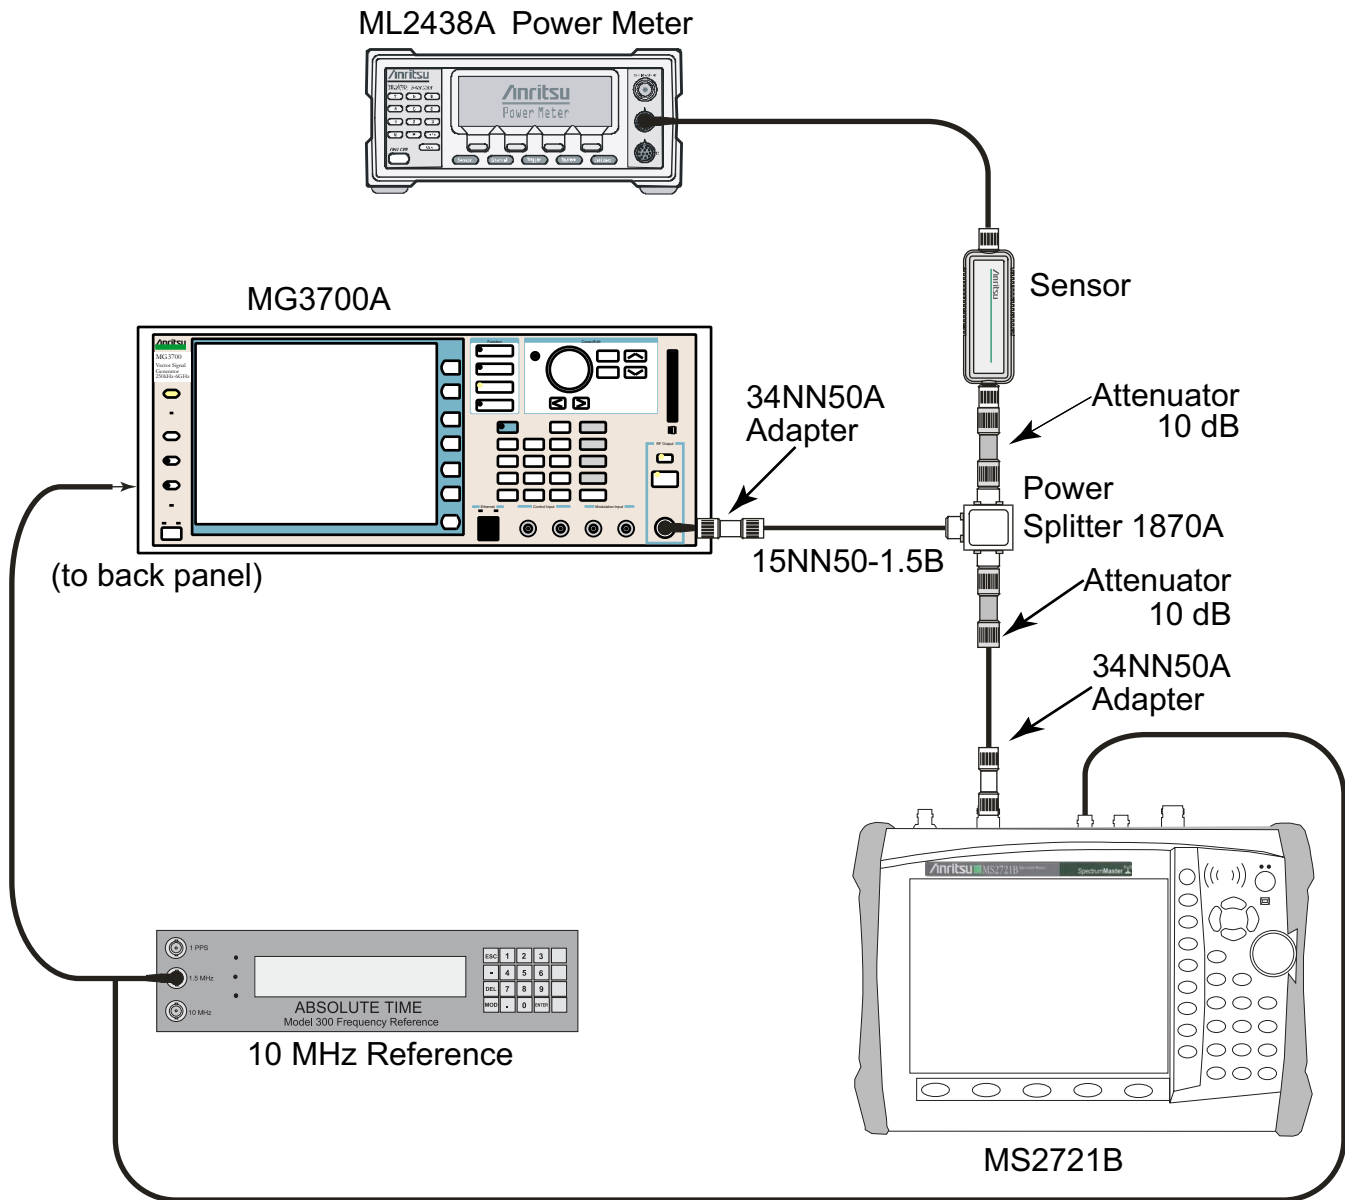

Figure 3-16. WCDMA Occupied Bandwidth Test Setup
3. Connect the MG3700A, splitter, attenuator, power meter, and sensor as shown in Figure 3-16.
4. Press the **On/Off** key to turn on the MS2721B and wait until the measurement display appears, then press the **Shift** key and press the **Mode** (9) key to activate the mode selection menu.
6. Press the **Shift** key, the **Preset** (1) key, and then the Preset soft key.
4. Press the **On/Off** key to turn on the MS2721B and wait until the measurement display appears. Press the **Shift** key and then press the **Mode** (9) key to activate the mode selection menu.
3. Connect the MG3700A, splitter, attenuator, power meter, and sensor according to Figure 3-16 on page 3-52.
4. Press the **On/Off** key to turn on the MS2721B and wait until the measurement display appears. Then press the **Shift** key and press the **Mode** (9) key to activate the mode selection menu.